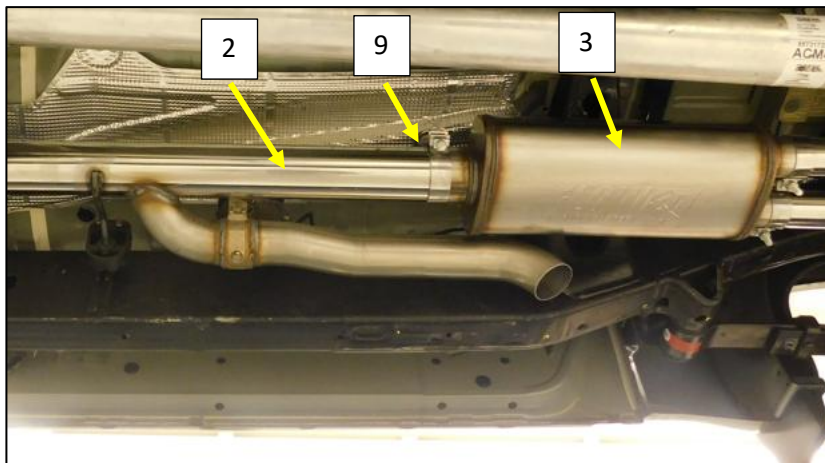

Figure.13
13. Install a supplied 3.5" band clamp (9) on to the Flowmaster muffler (3) Inlet neck. **Fig.13**
14. Install the Muffler (3) on to the Muffler Inlet pipe (2) and tighten the clamp to allow for adjustment. **Fig.13**